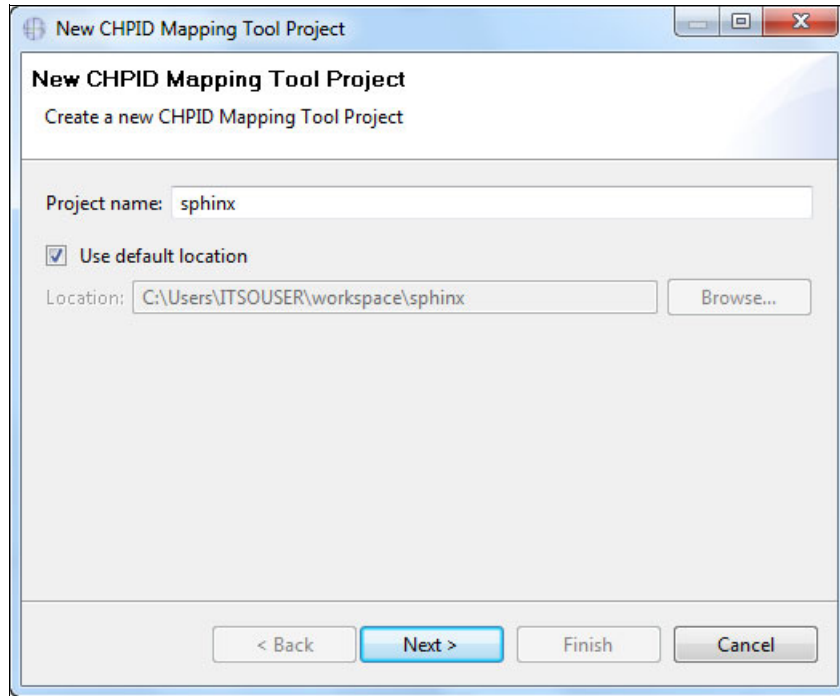

Figure 7-16 CMT - New CHPID Mapping Tool Project name
3. The New CHPID Mapping Tool Project window opens (Figure 7-16). Use this window to specify a project name and then click **Next**.